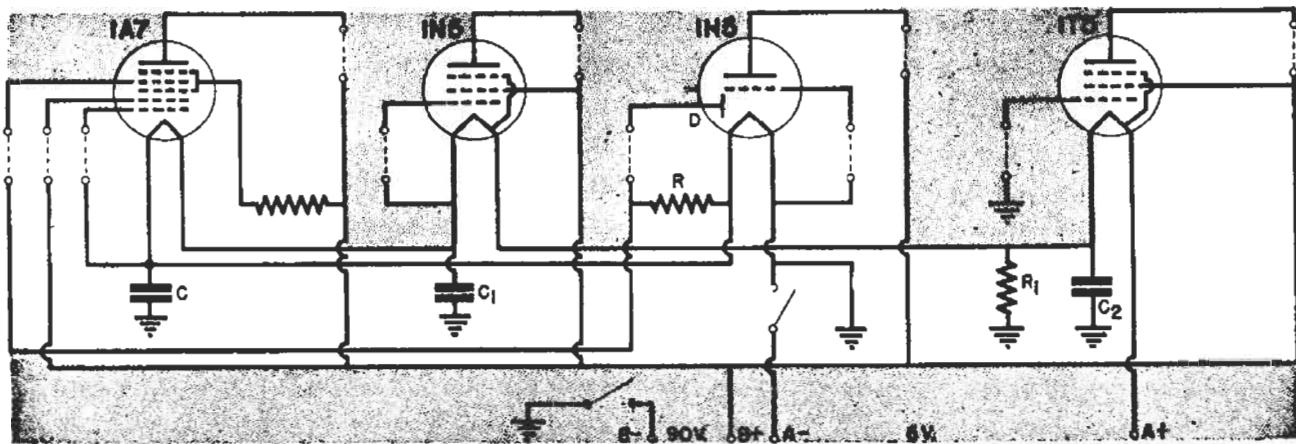
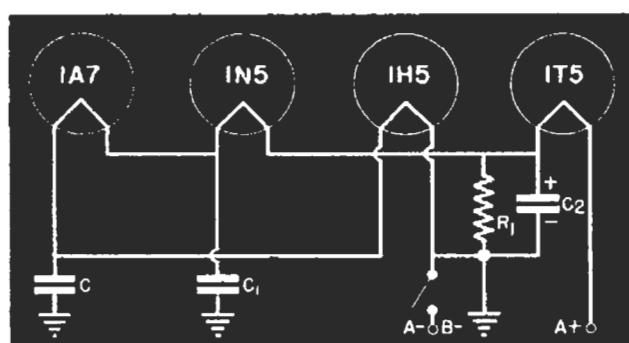
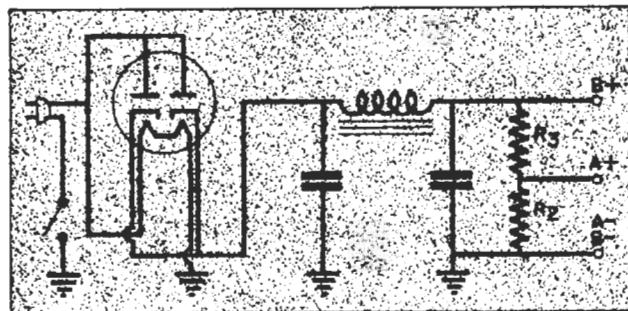

FIG. 28. Supply circuits in a typical modern battery portable receiver.
FIG. 29. The filament circuit of Fig. 28 shown in simplified form.
FIG. 30. This universal power supply can be used in battery sets to form a battery—a. c.-d. c. receiver.
A Series Filament Circuit. The circuit shown in Fig. 28 appears complicated because the tubes are not arranged in the same order as their filament connections. The circuit may be more easily understood by referring to Fig. 29, which shows just the filament circuit and its associated parts.
► Referring back to Fig. 28, you see that the 1T5 is biased by grounding its control grid return, thus connecting it to $A-$ (which is 4.5 volts negative with respect to the 1T5 filament). No external bias source is used for the 1H5 and 1N5 tubes. The 1A7 control grid (fourth grid from the filament) is connected through resistor R to the filament of the 1H5, which connects to the filament of the 1A7.
In the receiver shown in Fig. 28, we need 6 volts for the filaments and 90 volts as the B supply. The latter can easily be obtained from a power line by using the familiar a.c.-d.c. half-wave rectifier supply shown in Fig. 30. Between the $B+$ and $B-$ terminals there will be approximately 90 volts, so these terminals may be connected directly to the $B+$ and $B-$ receiver leads.
The rectifier output is filtered by its own filter and also by the filament by-pass condenser C_2 in Fig. 29. This
In receivers which have a bleeder resistor across the A supply (like R_2 in Fig. 30), doing so will usually cause no trouble. But suppose you pull